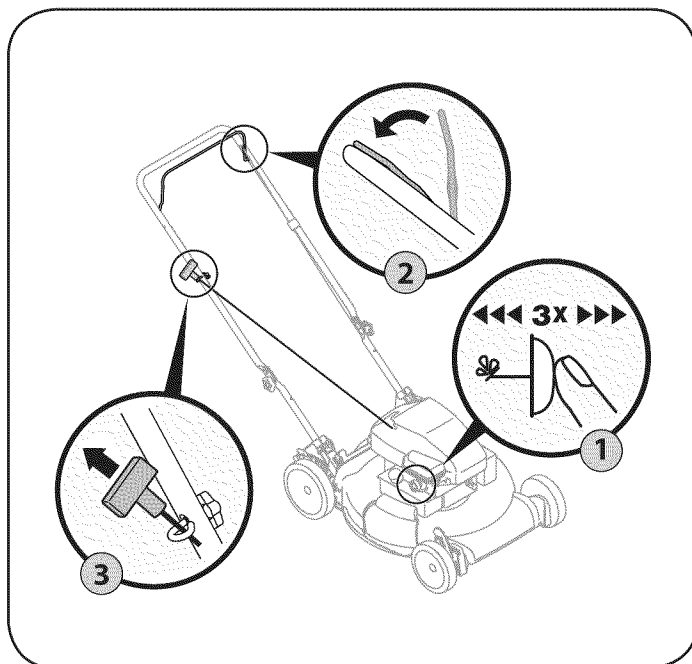

Figure 11
1. When starting the engine for the first time, push primer five times. For all future starts, push the primer three times. Wait about two seconds between each push. See Figure 11. Do not prime to restart a warm engine.
3. Holding these two handles together firmly, grasp recoil starter handle and pull rope slowly until resistance is felt, then pull with a rapid, continuous, full arm stroke. See Figure 11. Keeping a firm grip on the starter handle, let the rope rewind slowly. Repeat until engine cranks. Let the rope rewind each time slowly.